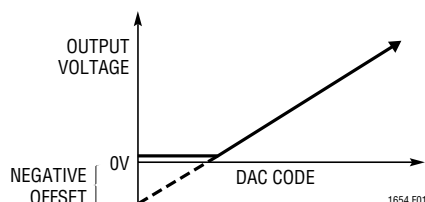

Figure 1. Effect of Negative Offset
**Voltage Offset Error ( $V_{OS}$ ):** Normally, DAC offset is the voltage at the output when the DAC is loaded with all zeros. The DAC can have a true negative offset, but because the part is operated from a single supply, the output cannot go below 0V. If the offset is negative, the output will remain near 0V resulting in the transfer curve shown in Figure 1.